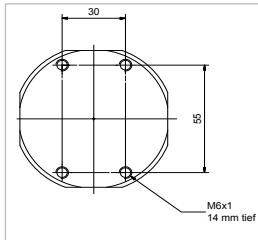

Figure 3
- Optionally, the T-Filter can be attached at any position via the 4 bores. To do this, fasten the T-Filter according to the hole pattern (Figure 3).